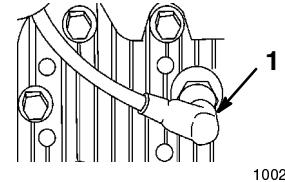

Figure 31
- Disconnect the wire from the spark plug (Fig. 31).